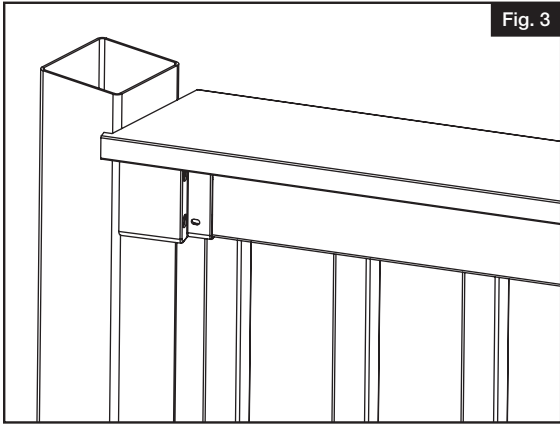

Fig. 3
- Mark $\frac{1}{8}$ " from end of post to allow room for expansion (Fig. 3).
- the maximum cut angle should be no greater than 21.5 degrees to ensure the bracket/rail does not overhang the 4x4 post. If you use this bracket at an angle greater than 21.5 degrees, it is recommended to use a larger post sleeve. The deck board, if installed post to post (versus over the top) will extend beyond the width of the post (Fig. 3).
- b. Assemble your stair railing section by snapping balusters into bottom rail (Fig. 3)